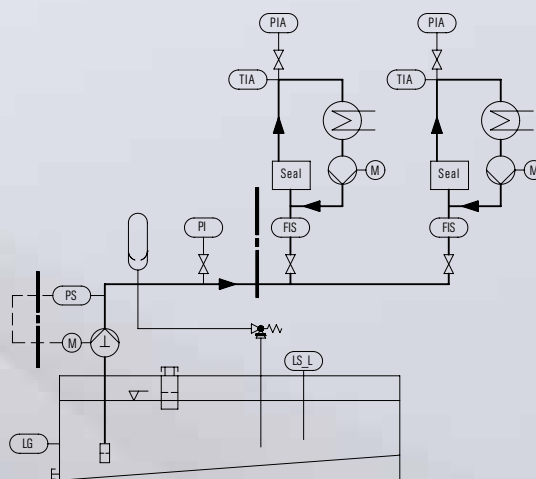

Fig. 2: Sample diagram of a central automatic refill unit with 2 loop systems.
2) Central automatic refill unit, e.g. the EagleBurgmann SPN, which pressurizes the barrier fluid, compensates the leakage and acts as a reservoir. Each dual seal has its own loop system, e.g. the EagleBurgmann SPQ, for cooling and circulation. Circulation can either be natural or forced using a circulation device in the mechanical seal or using an external circulation pump. Pressure, temperature and leakage can be monitored separately on each seal, because each seal has a dedicated loop system. Fig. 2 contains a sample diagram for this type of supply system.